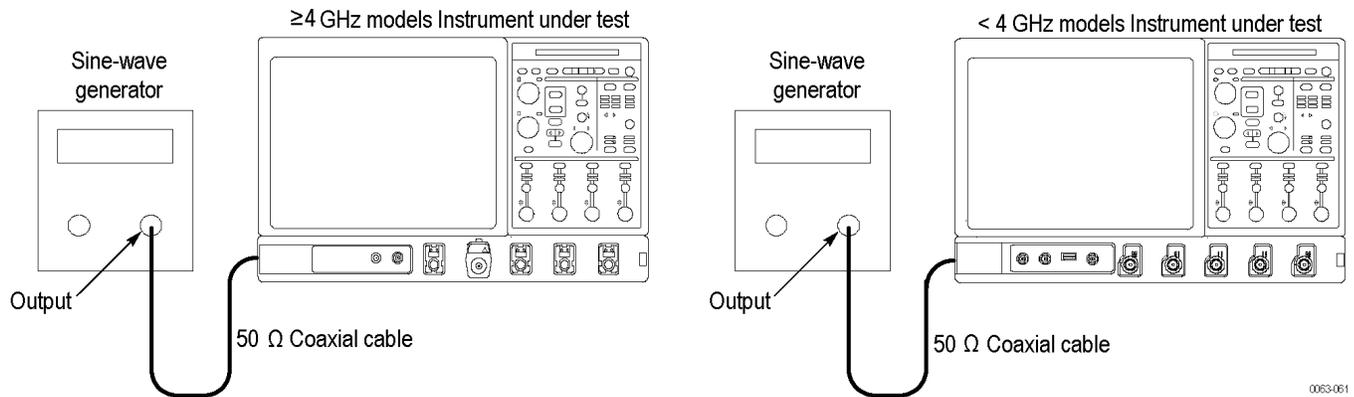

Figure 28: Timebase and delay time final test hookup
- Move the cable from the **Ch 1** input to the rear-panel **Ext Ref** input (See Figure 28 on page 299.)